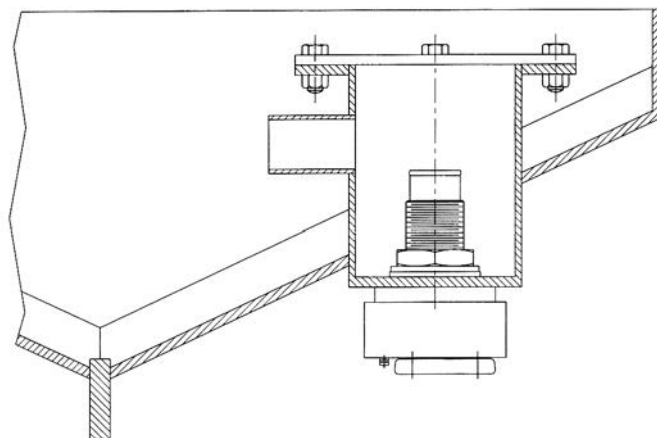

FIG. 5 *Canted Installation with Cofferdam.*
- 1.5.2 The GRIDCOOLER unit can be canted from the hull (sideways) to vertically align the nozzles. This can reduce interference problems with stringers on cofferdam installations. See Figure 5. (referred to section 3.1 for cofferdam installation)